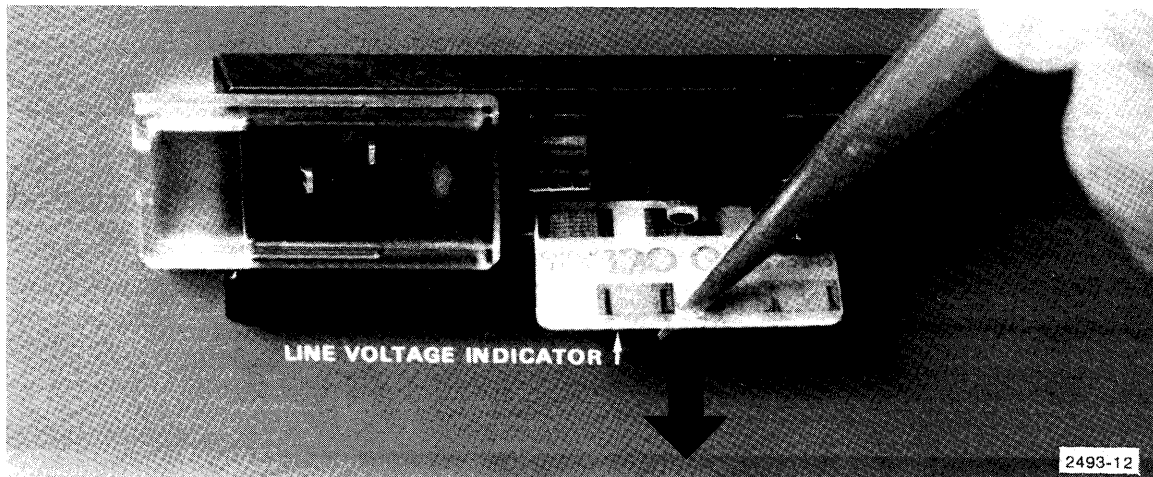

Figure 4-2. Removing Line Voltage Selector Card.
4. Remove the line voltage selector card using pliers or a pointed object (Figure 4-2).